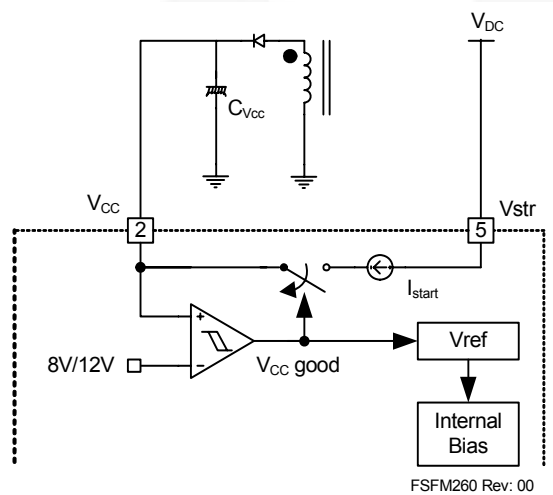

Figure 16. Internal Startup Circuit
1. Startup: In previous generations of Fairchild Power Switches (FPS™), the V_{CC} pin had an external startup resistor to the DC input voltage line. In this generation, the startup resistor is replaced by an internal high-voltage current source. At startup, an internal high-voltage current source supplies the internal bias and charges the external capacitor (C_{VCC}) connected to the V_{CC} pin, as illustrated in Figure 16. When V_{CC} reaches 12V, the FSFM260/300 begins switching and the internal high-voltage current source is disabled. Then, the FSFM260/300 continues its normal switching operation and the power is supplied from the auxiliary transformer winding unless V_{CC} goes below the stop voltage of 8V.